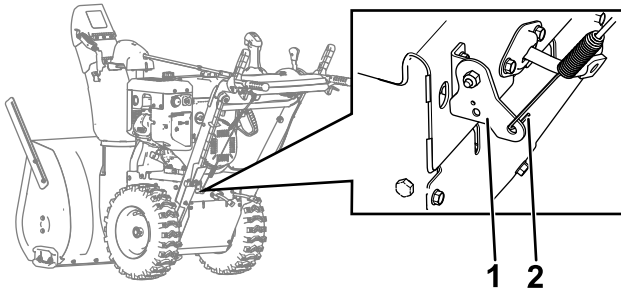

Figure 7
10. Hook the traction cable on the new traction-cable bracket as shown in Figure 7.
Note: Ensure that the traction cable is oriented as shown in Figure 7.